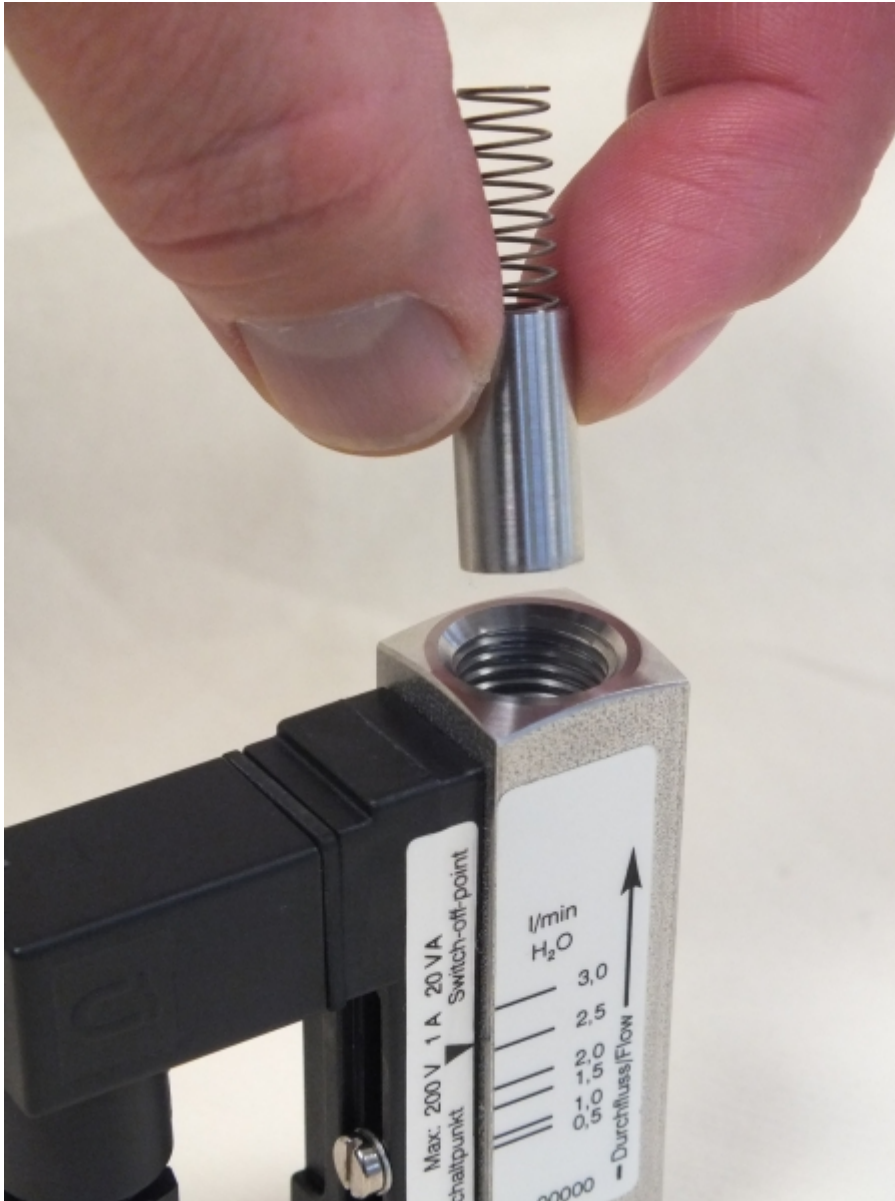

Fig. 46: Insert inner parts
4. ➡ Insert float with magnets and spring into the device body (Fig. 46)